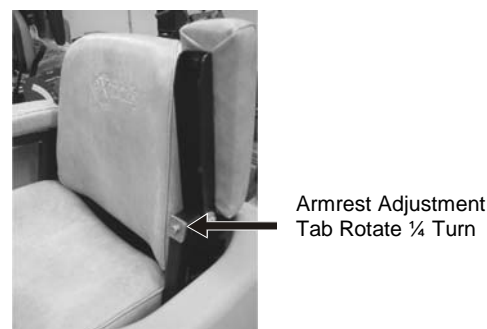

FIGURE 19
- a) Lift armrest on seat. Locate square tab marked with the numbers 1 through 4. Rotate square tab 1/4 turn to raise or lower the armrest in approximately 1/4" (6.4 mm) increments. See Figure 19.